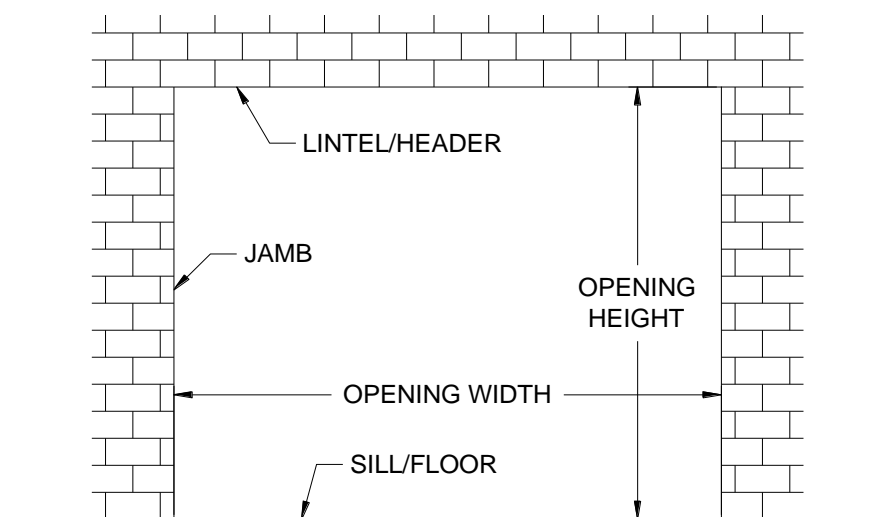

Figure 4.1 - Opening Dimensions and Designations
- c. Find the job construction drawings for the unit being installed and check the dimensions of the opening against those on the drawings. See **Figure 4.1** below.